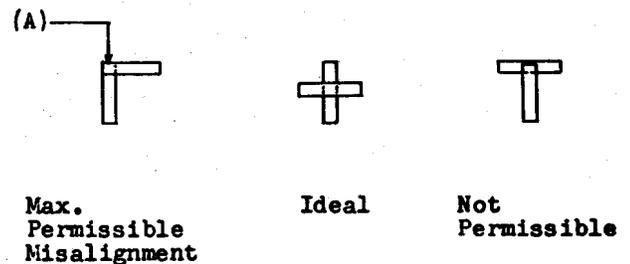

Fig. 2 — Alignment of Contacts — Plan View of Contact Surfaces
- 2.03 Contact Alignment** — Fig. 2 (A): The contacts shall line up so that the width of the contact surface of each contact bar falls wholly within the length of its mating bar. Gauge by eye.